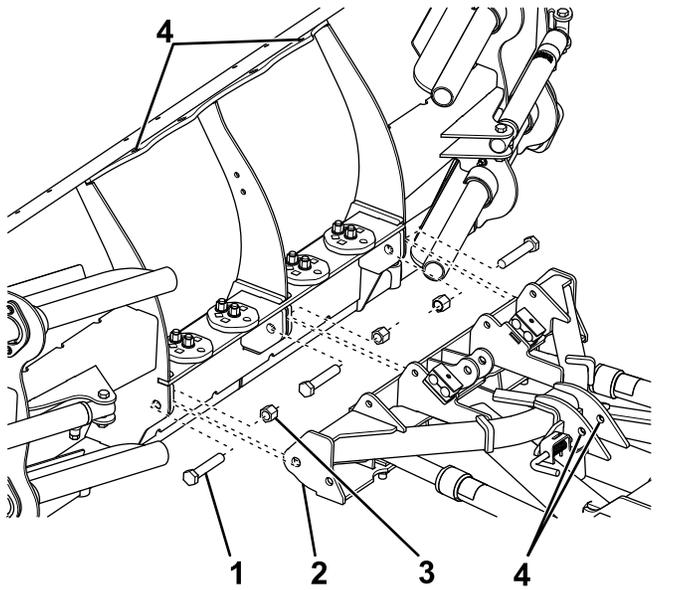

Figure 1
1. Attach the front of the push-frame assembly to the plow blade using 3 bolts (3/4 inch) and self-locking nuts (Figure 1).